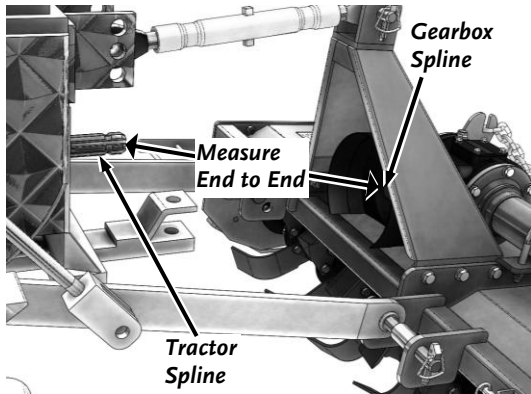

Figure 11: Ground Position
1. Lower the Tiller all the way to the ground in the operating position (**Figure 11**). Measure from the end of the Tractor Spline Shaft to the end of the Tiller Gearbox Shaft and record this dimension in the "ON GROUND" row of the table above.